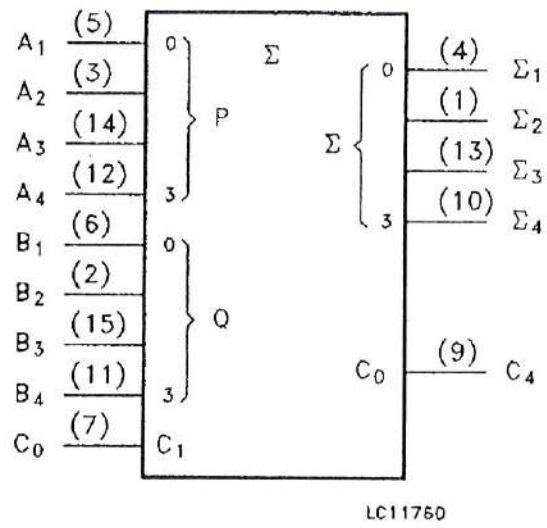

Figure Q3(a) / Rajah Q3(a)
- Q3. (a) Draw the connection to 74283 IC as shown in Figure Q3(a) and add other gates (if necessary) for the arithmetic process  $30_{10} - 17_{10}$  by using 2's complement method. Use 8-bit including the signed-bit. Datasheet of IC 74283 is given for reference.